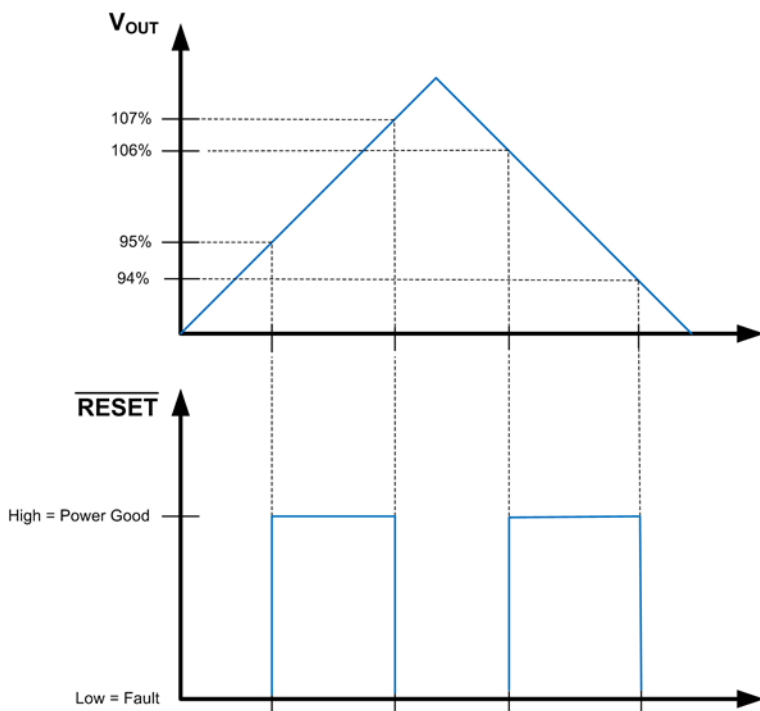
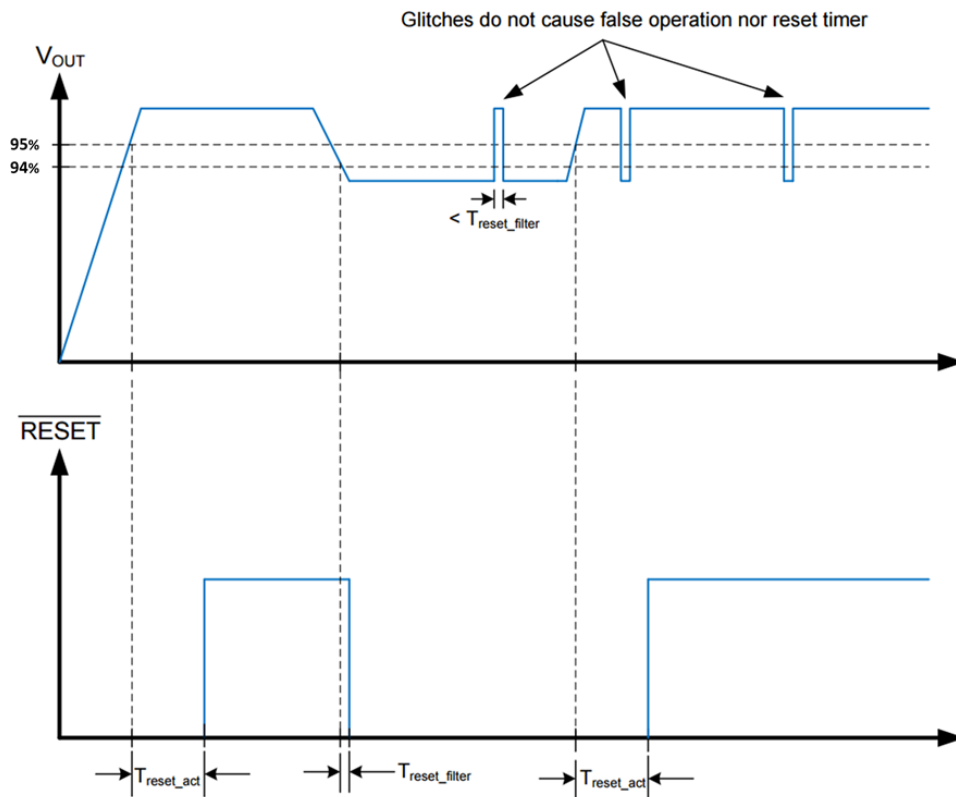
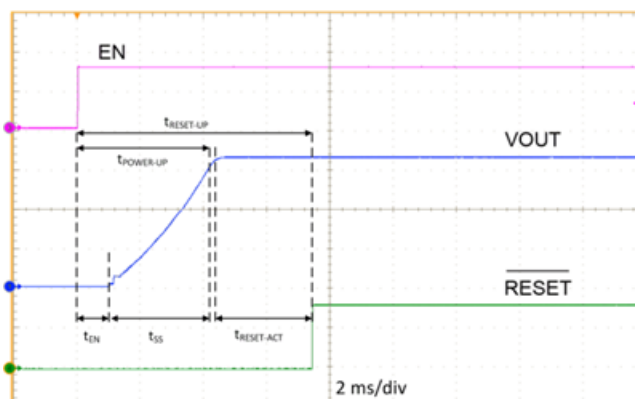

Figure 10. Static $\overline{\text{RESET}}$ Operation
Figure 11. $\overline{\text{RESET}}$ Timing Behavior
Figure 12. Typical Start-up Waveform
The $\overline{\text{RESET}}$ function, built into the LM53625/35-Q1, has special features not found in the ordinary Power-Good function. A glitch filter prevents false flag operation for short excursions in the output voltage, such as during line and load transients. Furthermore, there is a delay between the point at which the output voltage is within specified limits and the flag asserts Power Good. Because the $\overline{\text{RESET}}$ comparator and the regulation loop share the same reference, the thresholds track with the output voltage. This allows the LM53625/35-Q1 to be specified with a 96.5% maximum threshold, while at the same time specifying a 94 % worst case threshold with respect to the actual output voltage for that device. This allows tighter tolerance than is possible with an external supervisor device. The net result is a more accurate Power-Good function while expanding the system allowance for transients, and so forth. $\overline{\text{RESET}}$ operation can best be understood by reference to Figure 10 and Figure 11. The values for the various filter and delay times can be found in Timing Characteristics. Output voltage excursions lasting less than $T_{\text{RESET-filter}}$ do not trip $\overline{\text{RESET}}$. Once the output voltage is within the prescribed limits, a delay of $T_{\text{RESET-act}}$ is imposed before $\overline{\text{RESET}}$ goes high.
- A delay has been added for release of reset. See Figure 11 and Figure 12 for more detail.
Start-up and shutdown of the LM53625/35-Q1 are controlled by the EN input. Applying a voltage of ≥ 2 V activates the device, while a voltage of ≤ 0.8 V is required to shut it down. The EN input may also be connected directly to the input voltage supply. This input must not be left floating. The LM53625/35-Q1 utilizes a reference-based soft start that prevents output voltage overshoots and large inrush currents as the regulator is starting up. A typical start-up waveform is shown in Figure 12 along with timing definitions.
The waveforms shown in Figure 12 indicate the sequence and timing between the enable input and the output voltage and $\overline{\text{RESET}}$. From the figure we can define several different start-up times depending on what is relevant to the application. Table 3 lists some definitions and typical values for the timings.